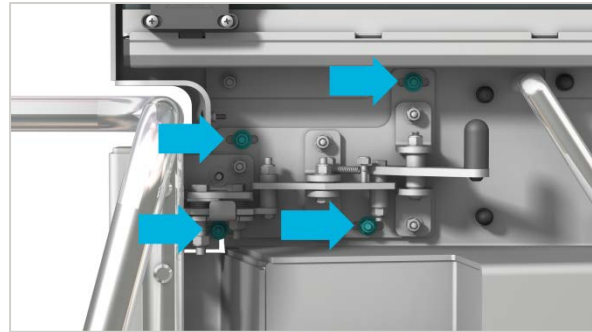

Figure 1 – Nut locations.
3. Using the $\frac{5}{32}$ " hex key and $\frac{7}{16}$ " wrench, tighten the nuts and screws shown in **Figure 1** to a final torque of 75 in-lbs.